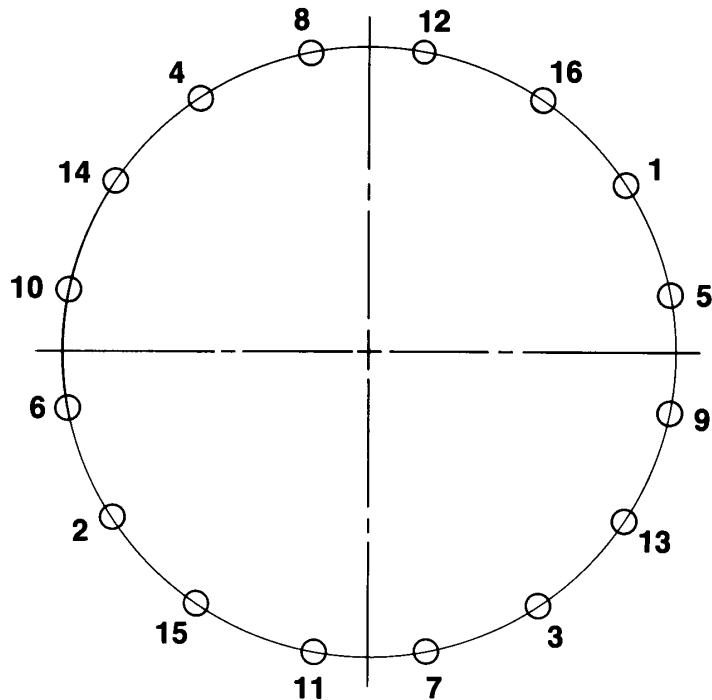

Figure 21
- 8.2.3 The nuts should be tightened evenly using a crisscross pattern similar to the one shown in Fig. 21. Tighten all of the nuts to 1/3 of the recommended value initially. Then repeat the sequence raising the torque to 2/3 of full torque. Finally, torque all the nuts to the recommended value following the crisscross pattern. It is essential that the flange faces remain parallel and all the bolting has uniform tension. Failure to achieve this may cause gasket weepage when the joint is subjected to operating pressures and temperatures.